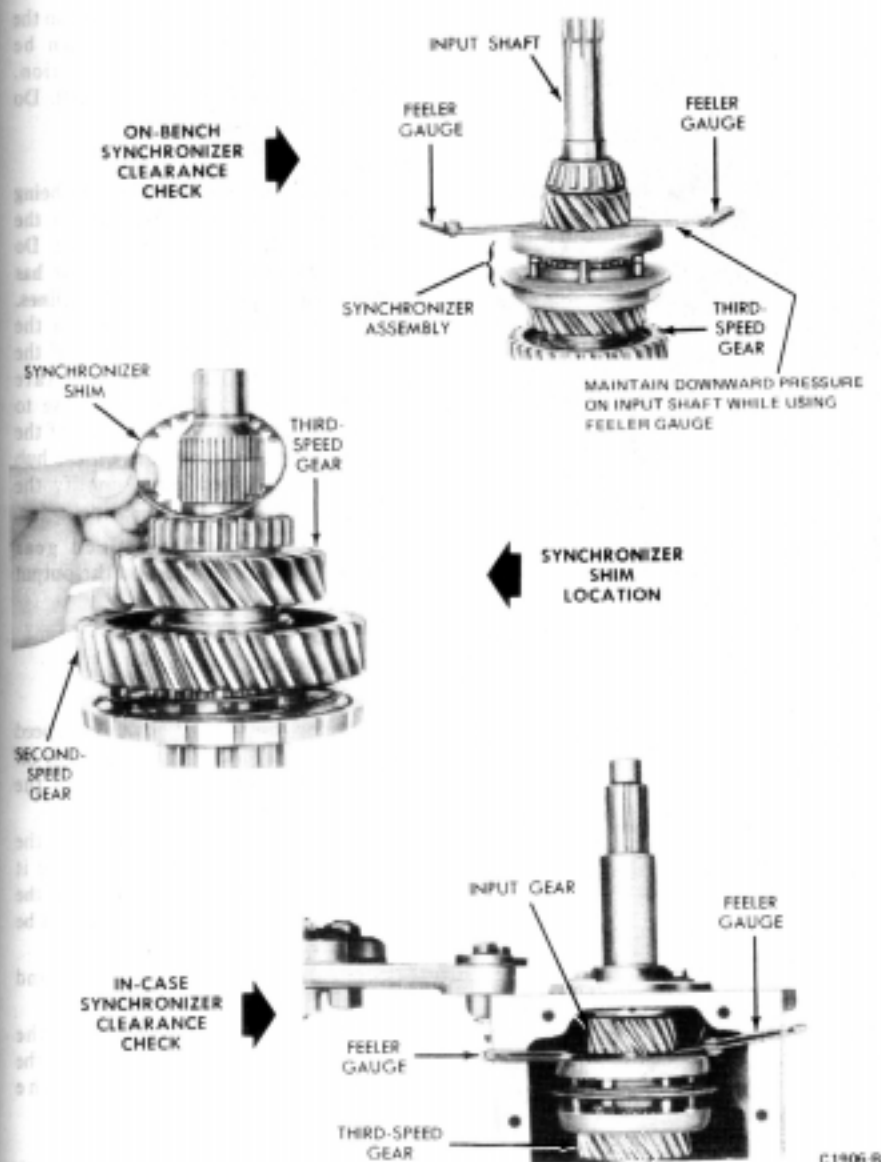

FIG. 10 Measuring Input Shaft-To-Synchronizer Clearance
1. Place the input shaft, third/fourth speed synchronizer assembly clutch gear and thrust bearing on the output shaft and secure the complete assembly in a vise as shown in Fig. 10. On F-100-F-350, P-500 check the distance between the synchronizer and input shaft gear. If the distance is more than .070 to .095 inch, install the necessary thickness of shims